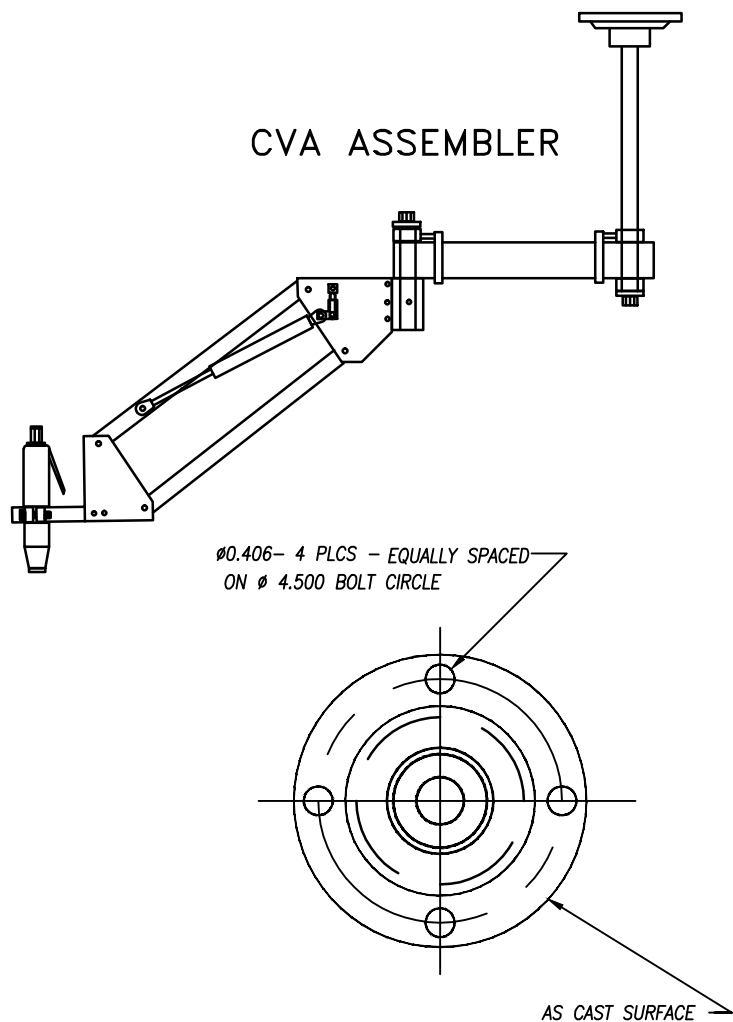

Figure1
- 1) Drill and tap 3/8-16 bolt holes on a flat smooth table or work bench. If mounting on a wood surface, use comparable carriage bolts. (See Figure 1.)
- b) Adjust the arm stop; it should turn freely. (See figure 1)